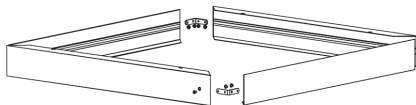

Fig. 5
- Assemble the surface mounted frame (LPANKIT, sold separately) with the screws and corner brackets provided (see Fig. 5)